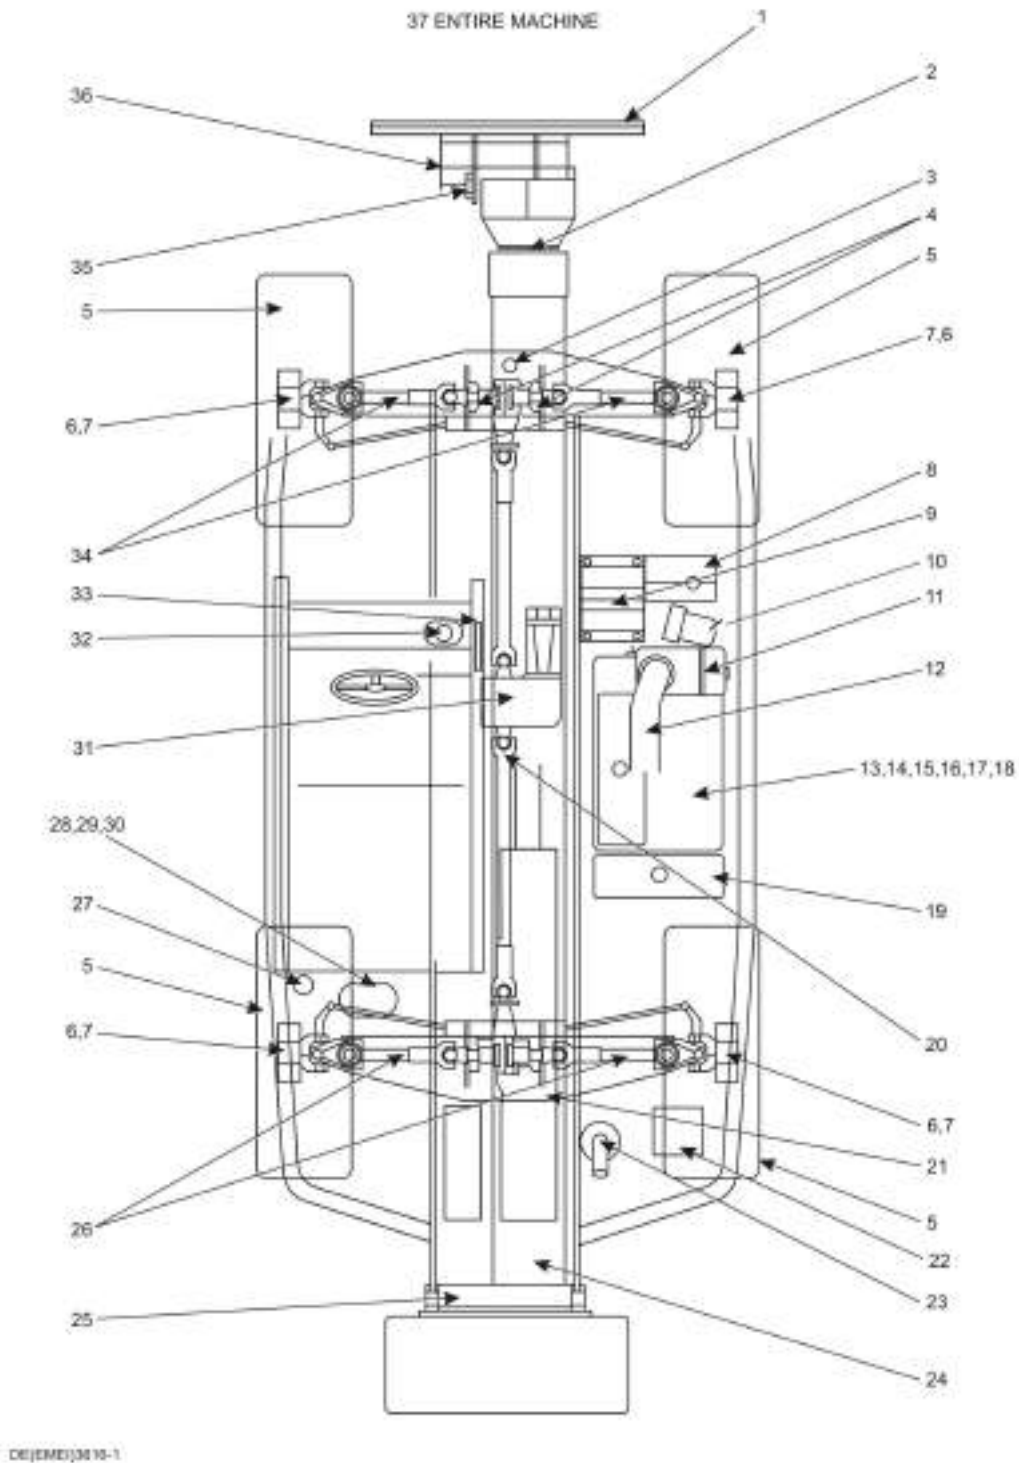

Figure 1 Servicing Points for the 3 Tonne Merlo
1. This EMEI lists the requirements for each level of servicing for the Truck, Forklift, Off Pavement, Telescopic Loader, 3 Tonne Merlo P35.9EV, Standard and Flameproof. Table 1 details the frequency of each level of servicing and Table 2 details the actions to be performed at each of the levels of servicing. The servicing points are shown in Figure 1.
<p>Notes:</p> <ol style="list-style-type: none"> <li>Item numbers in brackets refer to Figure 1.</li> <li>Ref EMEI Engr Equip T 156-3.</li> <li>Ref EMEI Engr Equip A 591-1.</li> <li>Drain water and sediment only.</li> <li>Remove drain plug, clean vent hole and reseal with Loctite 567.</li> <li>Flameproof vehicles only (Ref EMEI Engr Equip T 156-1).</li> <li>In hot climates or prolonged usage, replace water every four hours.</li> </ol>